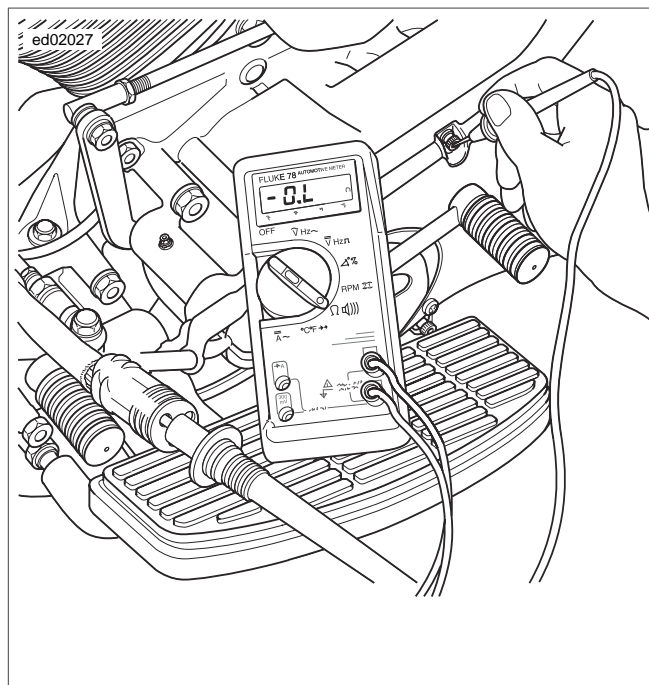

Figure 1-23. Test for Grounded Stator (Typical)
2. See Figure 1-23. Connect an ohmmeter.